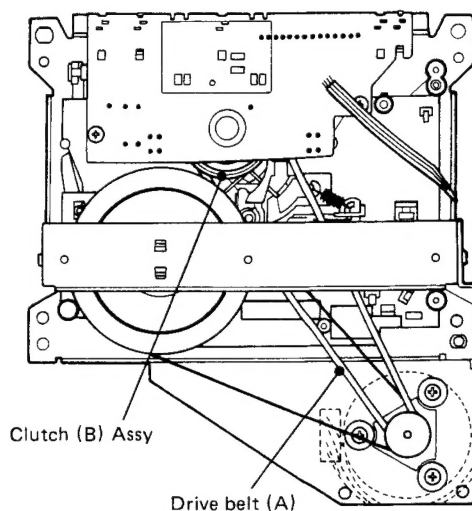

Fig. 8-2 Mechanism Assy PART
- 2) If the torque is out of the limits, change Clutch (B) Assy and Drive belt (A) if necessary. (Refer to Fig. 8-2)